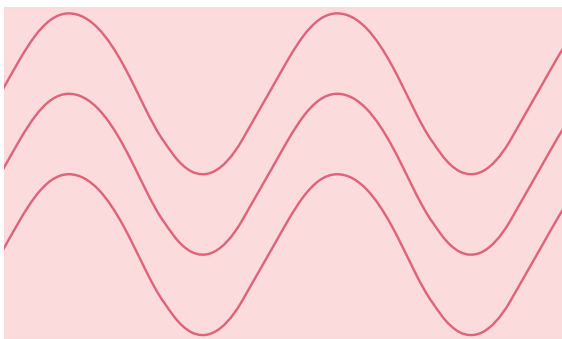

Figure 3
The concept of laser light is better understood by defining and examining its inherent properties. The light outputted from a laser differs from ordinary light and has three (3) defining characteristics that make it unique and help it to stand apart: coherence, monochromaticity, and direction. When all emitted photons bear a constant relationship with one another in both time and phase, the light is said to be coherent. In addition, due to the specificity and purity of the medium, laser light is also monochromatic (one color). Lastly, light emitted from the laser is highly directional, traveling as a relatively narrow beam, in a single direction, and down a specific and predetermined path (**figures 3 & 4**).